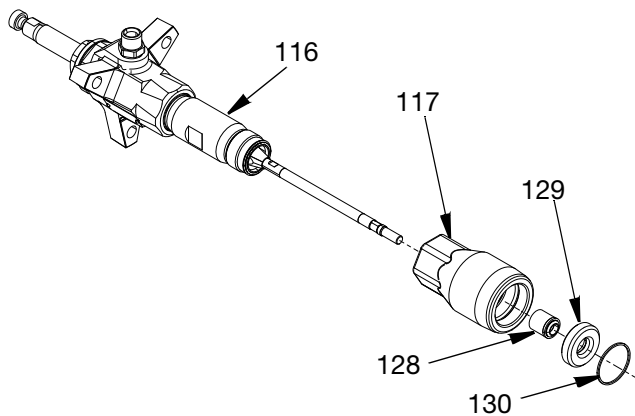

FIG. 9
6. Remove remaining assembly using an adjustable wrench to unscrew valve housing (117) from cylinder (116). While the bench vice is secured on the cylinder, pull the valve housing off of the cylinder. Poppet inlet check valve (128), and inlet seat check valve (129) should slide down the lower shaft assembly (125) inside the valve housing as you remove the valve housing.
7. Use an O-ring pick to remove seal (130) from valve housing (117). Discard seal and use a new one for reassembly.
8. Pull the inlet seat check valve (129) out of the bottom of the valve housing (117). Remove the poppet inlet check valve (128) carefully making sure that it does not get damaged as it can freely fall out after the inlet seat check valve is removed. See FIG. 9. For seal removal from poppet inlet check valve see step 14 page 15.
NOTE: If seat check in valve (129) is difficult to remove, insert a hammer and brass rod through the hex side of the valve housing (117) and drive seat out. Do not strike the seating surface at the center of the seat inlet check valve (129). See FIG. 9. .